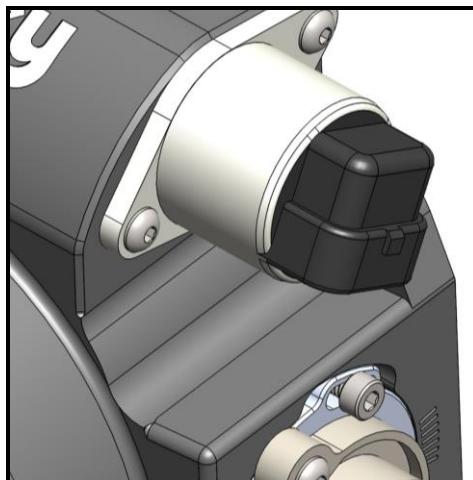

Figure 1
3. Install with plug, oriented as shown in **Figure 1**, using the (2) supplied M4 X 10mm button head screws.